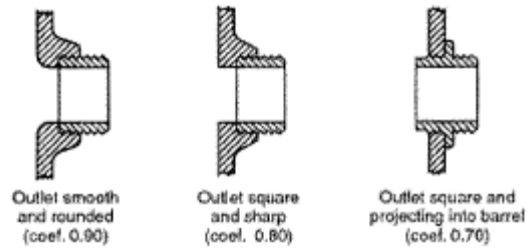

FIGURE 4.7.1 Three General Types of Hydrant Outlets and Their Coefficients of Discharge.
A. At the hydrants used for flow during the test, the discharges from the open butts are determined from measurements of the diameter of the outlets flowed, the pitot pressure (velocity head) of the streams as indicated by the pitot gauge readings, and the coefficient of the outlet being flowed as determined from Figure 4.7.1
c = coefficient of discharge (see Figure4.7.1)